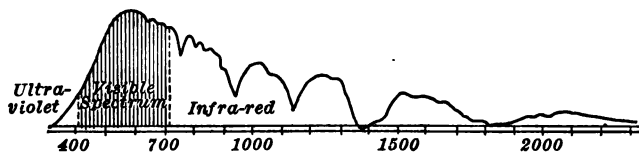

FIG. 453. — Chart of waves of varying lengths.
**477. Infra-red and ultra-violet rays.** In the last few years we have come to know that the sun is sending out not only the light waves which affect the optic nerve, but also other longer ether waves which, though invisible, yet can produce strong heating effects, and are called the **infra-red rays** (Fig. 453). We have also learned, by photographing the spectrum of the sun, that it is sending out rays too short to be seen, which affect a photographic plate, and are called **ultra-violet rays**.